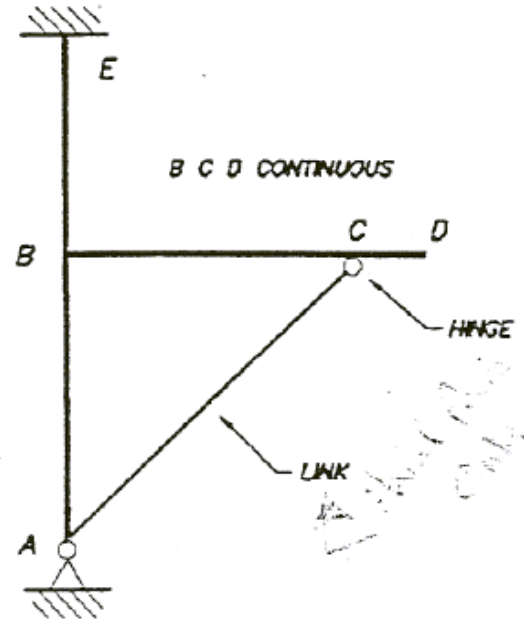

FIG Q1(a)(ii)
- (b) Determine the degree of kinematic indeterminacy of the structures shown in Fig. Q1(b), stating briefly reasons for your answer and any assumptions made about axial deformations.